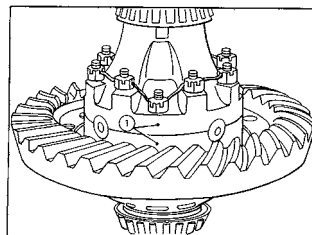

Figure 3.
1. If original identification marks are not clear, mark differential case halves with a punch or chisel (refer to Fig. 3) before disassembling, for correct alignment when reassembling.
2. Cut lock wire, remove bolts or capscrews, and separate case halves (refer to Fig. 3).
3. Remove spider, pinions, side gears, and thrust washers (refer to Fig. 3).